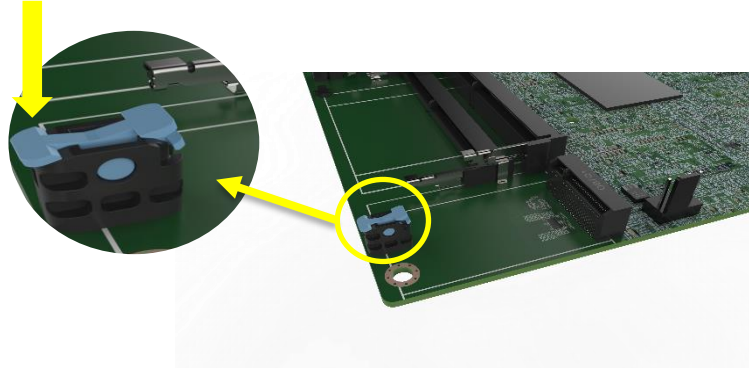

Figure 4-11: Press the Retainer
Step 1: Press the retainer down as shown below. (See **Figure 4-11**)
Step 4: If you want to remove the M.2 module, you should press the retainer down as described in Step 1 to release the M.2 module. (See **Figure 4-11**)